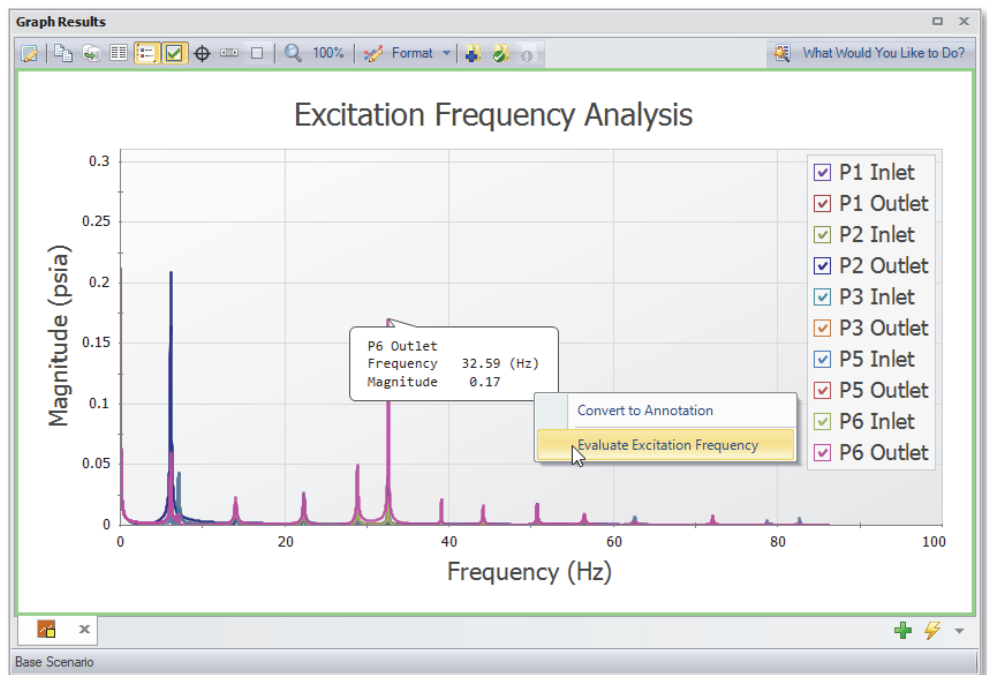

Figure 6.16 Excitation Frequency Analysis with Dialog Flag. Right-clicking on the Dialog Flag provides the option to Evaluate Excitation Frequency.
2. Right-click on the dialog flag that appears on the peak of this frequency, as demonstrated in Figure 6.16.